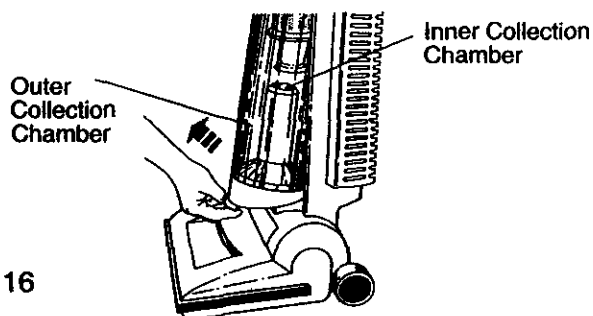

FIGURE 16
- To remove the Collection Bin from the base of the machine simply insert your fingers under the Collection Bin Catch, lift up and out, and pull away. (Figure 16)
- Make sure to empty the dirt from both the Outer and Inner Collection Chambers. (Figure 16)